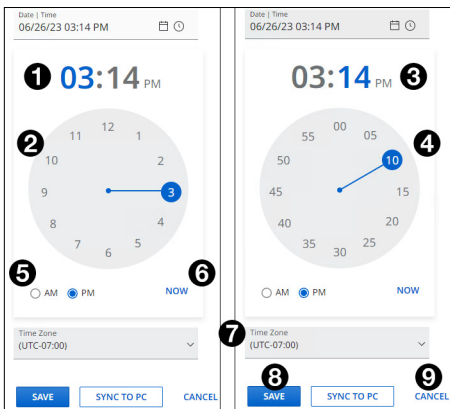

Figure 12. Timepicker hours (left) and minutes (right)
By default, the timepicker opens to select the hour value (see figure 12, left). Either click on the hour in the text display (**1**) and change it to the desired value or select a value from the clock face (**2**).
5. Click inside the minutes value in the text display (**3**). The clockface changes to minutes (see figure 12, right).